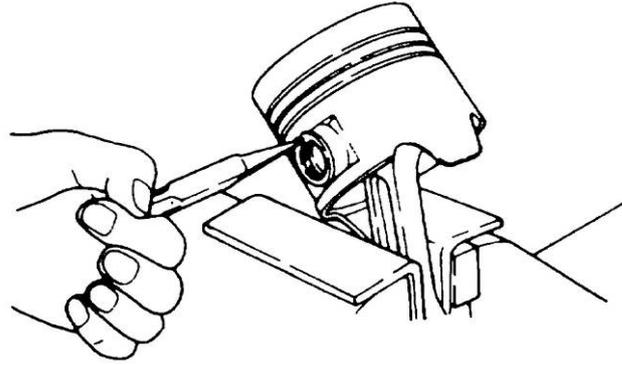

Figure 45 Installing the Snap-rings
- q.** Align the gudgeon pin holes in the piston and connecting rod. Coat the outer surface of the gudgeon pin with clean engine oil and push the gudgeon pin into position in the piston and connecting rod. Install the gudgeon pin retaining snap-rings into the grooves in the piston (Figure 45) ensuring that the snap-rings are correctly seated. Repeat the procedure for each piston and connecting rod set.